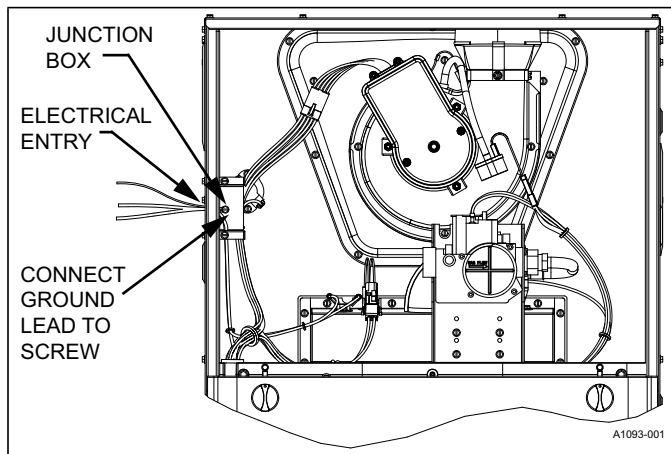

Figure 10: Electrical Wiring
After making the wiring connections, replace the wiring box cover and screws. Refer to Figure 10.
3. The furnace's control system requires correct polarity of the power supply and a proper ground connection. Refer to Figure 10.